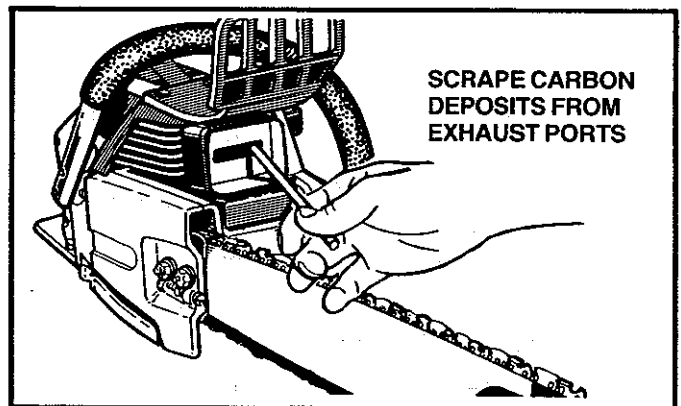

Figure 39
- d. Scrape the carbon deposits from the exhaust ports and surrounding exhaust chamber using a hardwood stick. Figure 39.